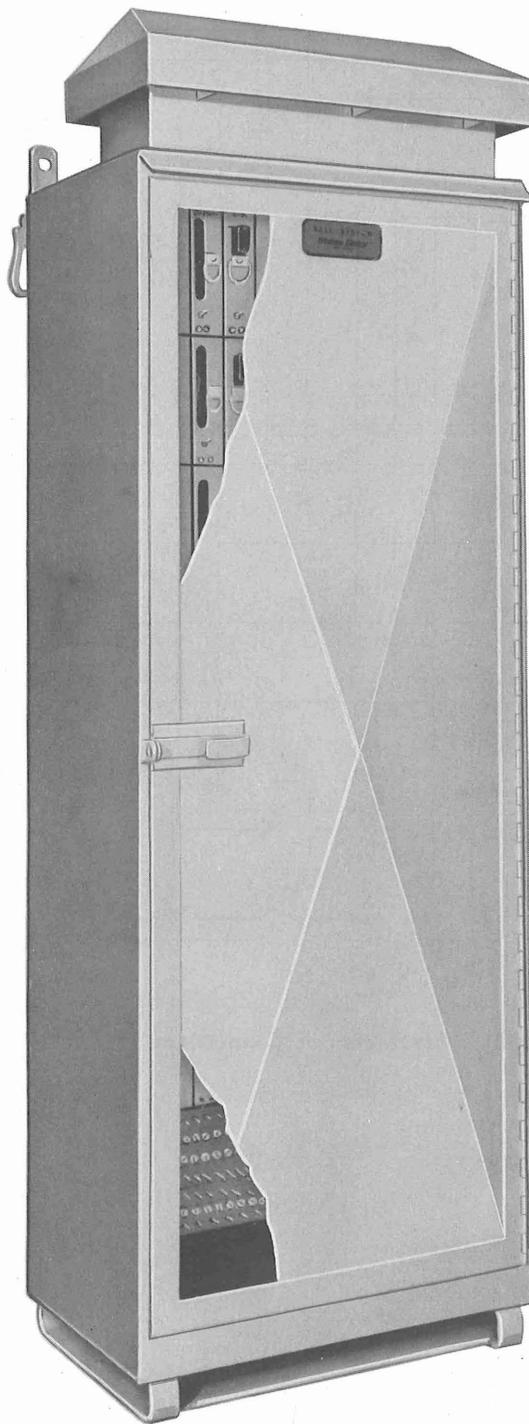

Fig. 4—J70171A Pole-Mounted Cabinet
**3.08** The J70171A repeater cabinet assembly (Fig. 4) is intended for pole mounting. A 19-inch framework inside the cabinet can mount seven J70171AB repeater shelves. Each shelf accommodates ten plug-in circuit packs (one full duplex repeater).